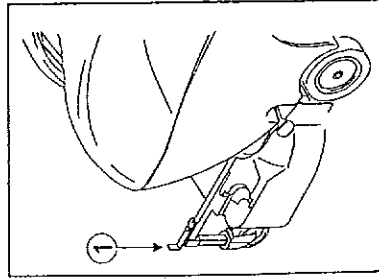

Fig. 8
If the machine is equipped with the small carriage wheel (optional - fig. 2, ref. 3), lower the wheel (always lifting the squeegee) to move it; once you have arrived at the desired place, lift the small wheel by turning the unblocking lever (fig. 8, ref. 1) to the left.
- If necessary, correct any tendency of the machine to deviate from the straight direction by acting on the direction adjusting knob (fig. 8, ref. 8): refer to the label attached next to the knob to correct the advance direction;